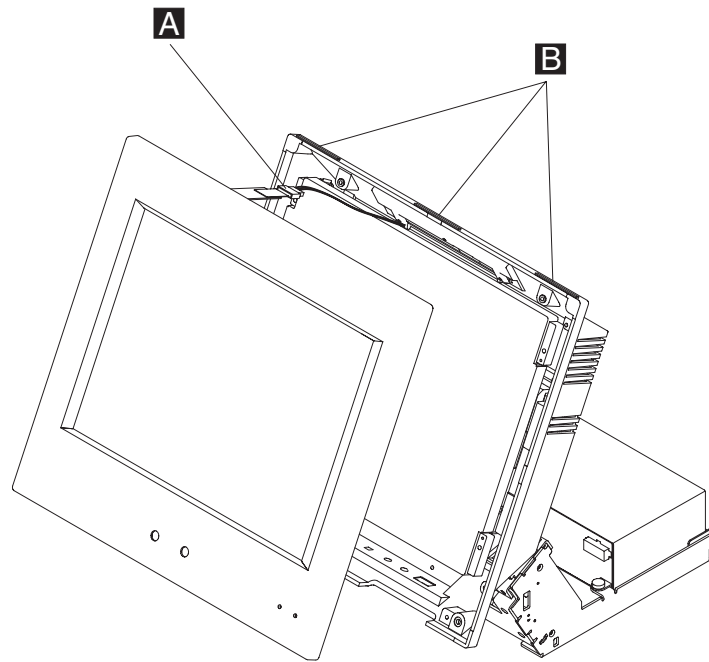

Figure 65. Disconnect the touch screen cable
6. From the front of the system, pull the bottom corners of the touch screen forward slightly. On the model 561, the presence sensor cable must be unplugged from the left side of the system. Lift the touch screen off the three hooks **B** on the display, being careful to not damage the ribbon cable or connector **A**. See Figure 65.